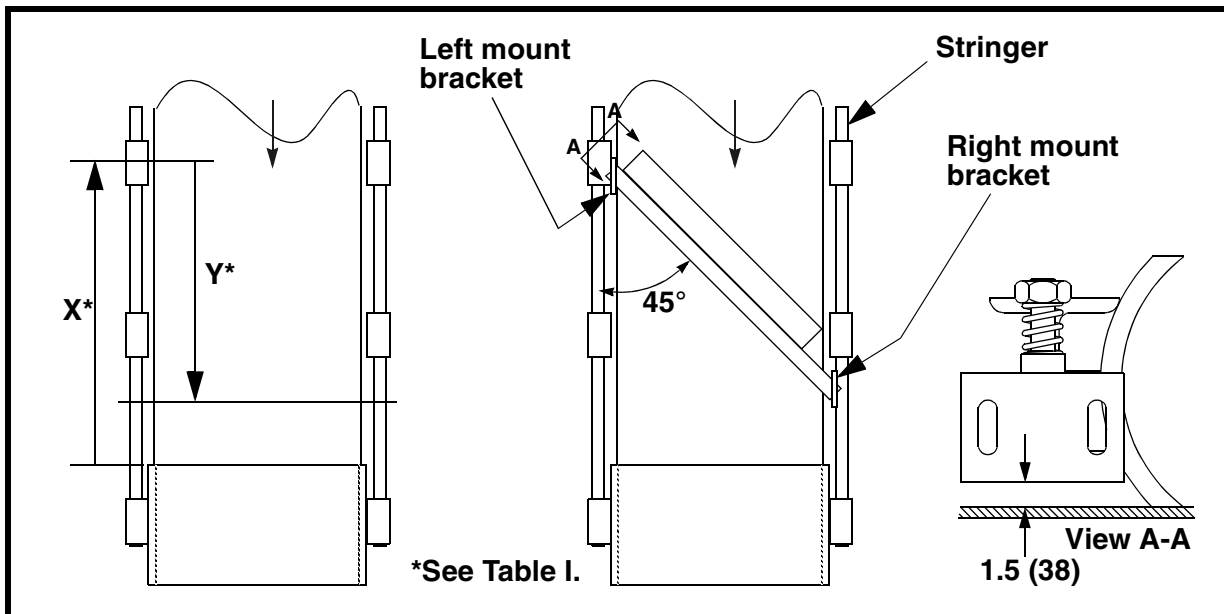

Figure 2. Locating Mount Brackets on Stringers
- a. See Figure 2. Starting from face of tail pulley, measure distance shown under “Locate Left Bracket” in Table I, and mark location on stringer on left side of belt.
- a. See Figure 2. Starting from left side mounting hole marks, measure toward tail pulley distance shown under “Locate Right Bracket” in Table I. Mark location on left side stringer.
<p>*Minimum distance from face of tail pulley (see Figure 2). **Distance from left mounting bracket toward tail pulley (see Figure 2).</p>